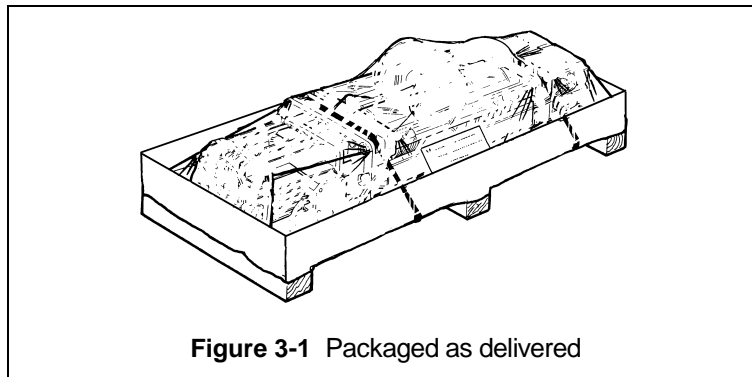

Figure 3-1 Packaged as delivered
- 3.1.2 The RY hoist is delivered pre-assembled on a plastic-covered pallet/skid as shown in **Figure 3-1**. During shipment and storage prior to installation, the trolley hoist should be kept between -4° and $+104^{\circ}\text{F}$ (-20° and $+40^{\circ}\text{C}$) and the relative humidity must not exceed 90%. The standard packaging is not watertight and rainproof.